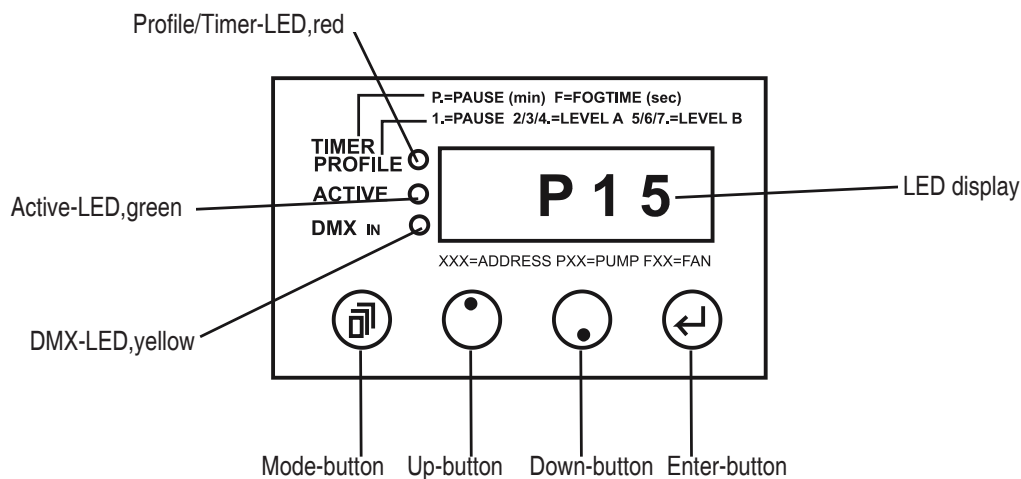

Fig.1: Adjusting the pump output
- 1) Press the Mode-button at the control panel until a P and two figures appear on the LED-display (see Fig. 1).